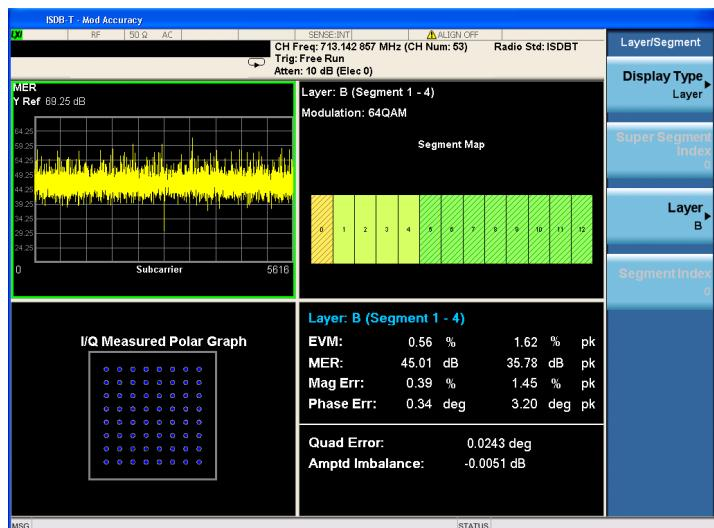

Figure 12. Modulation accuracy measurement with I/Q error view
Switch to the I/Q error view (Figure 12)	[View/Display] {I/Q Error (Quad View)}
– **I/Q error view** (Figure 12):
In I/Q Error view, you can see the measurement results of each layer or segment by setting the display type. Four windows are displayed in Figure 12. The MER versus sub-carrier (top-left) window displays the MER result for the entire frame. The segment map window (top right), datasegment/layer polar graph window (bottom left), and result metrics window (bottom right) indicate the results for the selected display data.